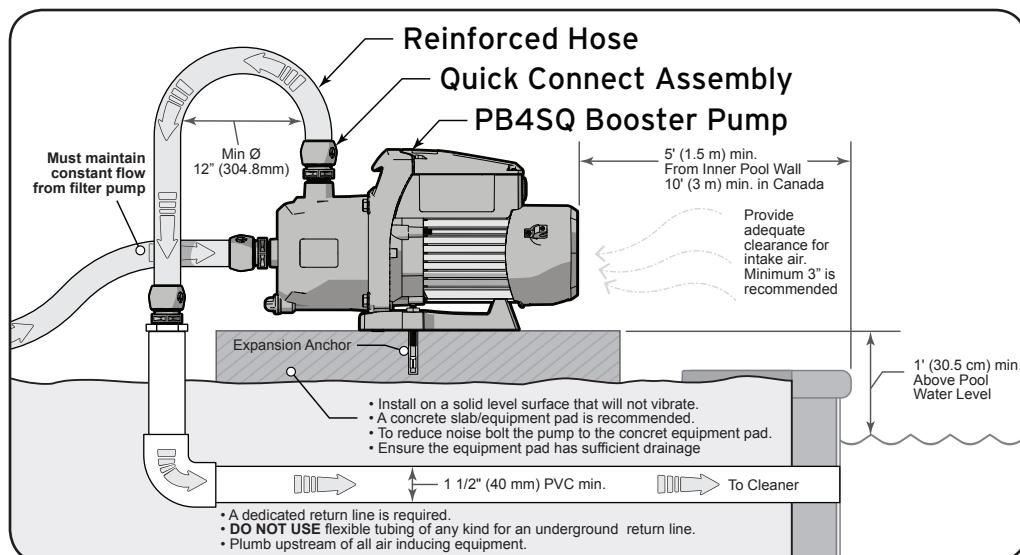

Figure 3. Location Requirements
- The pump along with all other circulation equipment must be installed at least 5' (1.5 m) from the inner pool edge. See Figure 3.
- The pump must be placed on a solid foundation that will not vibrate. See Figure 3.
- Secure the pump by bolting it to the equipment pad. This will also have the added benefit of helping to reduce vibration noise. See Figure 3.
*Assumes three (3) copper conductors in a buried conduit and 3% maximum voltage loss in branch circuit. All National Electrical Code® (NEC®) and local codes must be followed. Table shows minimum wire size and branch fuse recommendations for a typical installation per NEC.
2. Ensure that the pump is installed and firmly attached to a solid foundation. See Figure 3.